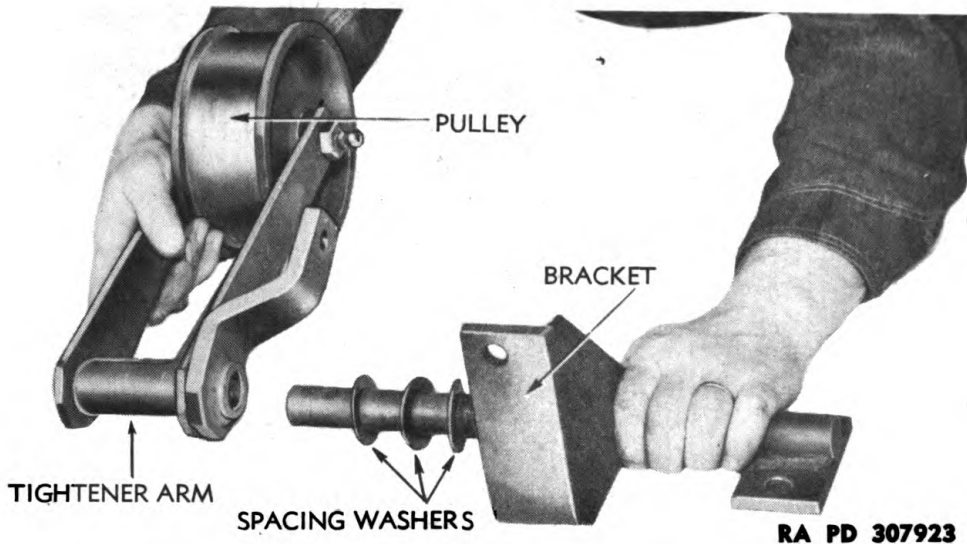
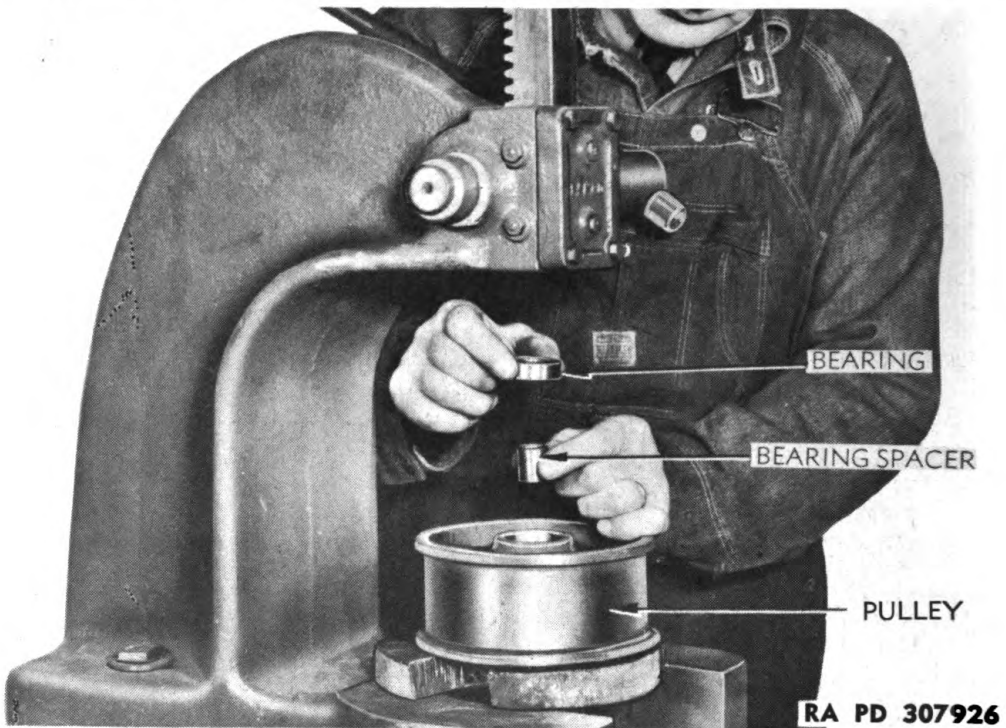
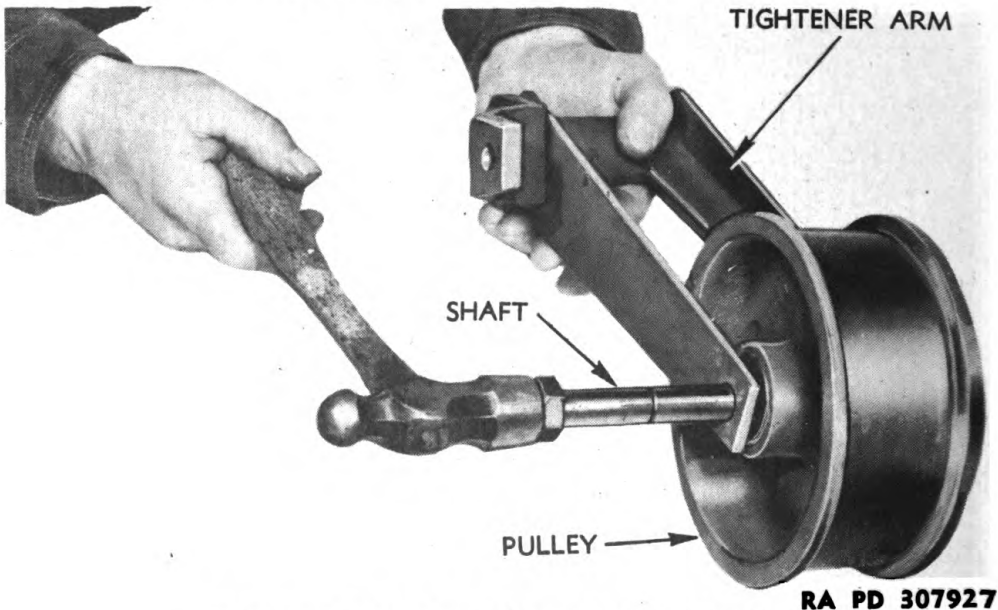
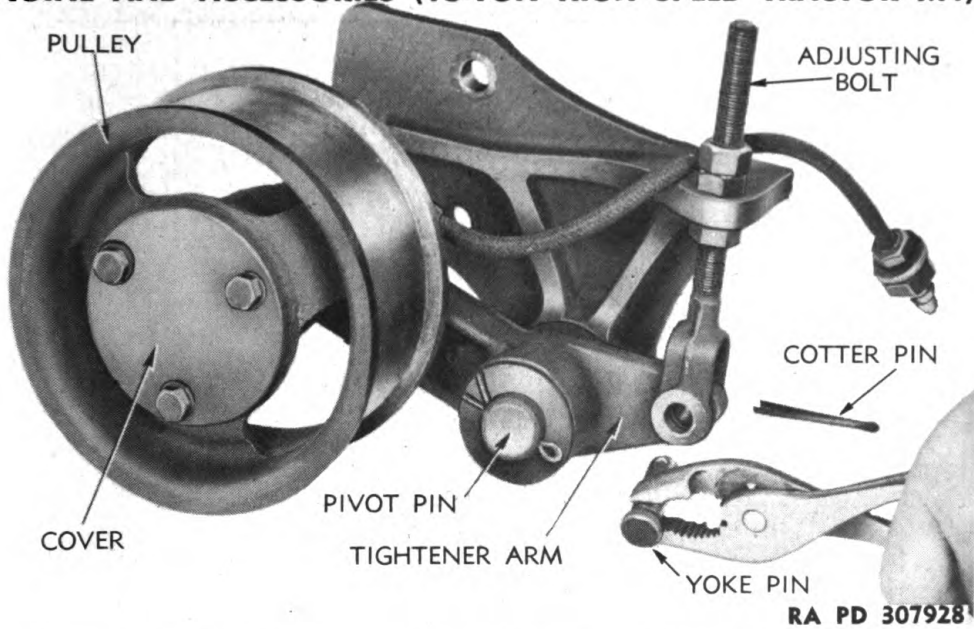

Figure 116 — Removing Tightener Arm From Bracket
Figure 119 — Installing Inner Spacers and Second Bearing
Figure 120 — Installing Pulley Shaft
Figure 121 – Disconnecting Adjusting Rod From Tightener Arm
b. Disassembly of Tightener. Pull cotter pin and slide the two outer flat washers, tightener arm, and three inner spacing washers off pivot shaft (fig. 116). Remove lubrication fitting from end of pulley shaft. Pull cotter pin and remove slotted nut from shaft, then drive, or press, shaft, out of tightener arm and pulley. Slip spacers out of ends of pulley hub, then, using pilot bearing puller as in figure 123, pull bearings and oil seals from pulley. Remove inner bearing spacer.
(lip of seal towards end of hub). Turn pulley over and drop inner bearing spacer (0.908 inch long) into hub against installed bearing and press second bearing into hub against spacer (fig. 119). Aline spacer with bearings at this time. Press second oil seal into hub in same manner as seal in opposite end. Set outer spacers in place by pushing one through each oil seal, using care not to damage or double lips of seals. Hold pulley assembly and tightener arm as shown in figure 120 and tap shaft through arm and pulley. Install and tighten slotted nut on end of shaft. Secure nut with cotter pin. Screw lubrication fitting into end of shaft. Slip three flat spacing washers onto pivot shaft of bracket, then slide tightener arm onto shaft as shown in figure 116. Place two more spacing washers on shaft and install cotter pin in end of shaft. With one nut on adjusting rod, insert end of
b. Disassembly of Tightener. Pull cotter pin and remove yoke pin from belt tightener arm and yoke of adjusting bolt (fig. 121). Remove cotter pin and washer from tightener pivot pin and slide tightener arm off pin. Remove three cap screws and lock washers
and spacer from pulley. Remove adjusting bolt (fig. 121) by removing the two nuts from outer end of bolt.
d. **Assembly of Tightener.** Lubricate bearings with light engine oil. Press inner ball bearing into counterbore in long end of pulley. Press pulley shaft through outer bearing, slip inner bearing spacer onto shaft, then insert threaded end of shaft through hub and inner bearing and press on shaft until outer bearing is against shoulder in cover end of pulley hub. Press oil seal into inner end of hub (lip of seal facing away from bearing) until it is flush with hub. Then slip outer spacer onto shaft and press it through oil seal and against bearing. Insert end of shaft through tightener arm, install flat washer on shaft, then install slotted nut and tighten firmly (fig. 122). Secure nut with cotter pin. Cement gasket to pulley cover and install cover on pulley with three cap screws with lock washers (fig. 121). Slide
tightener arm onto pivot pin in bracket as shown in figure 116 and secure with washer and cotter pin. Install adjusting rod in bracket as shown in figure 121 and connect yoke to tightener arm with yoke pin and cotter pin. Screw lubricating tube fitting into tightener arm and connect tube to fitting. Fill pulley with lubricant.